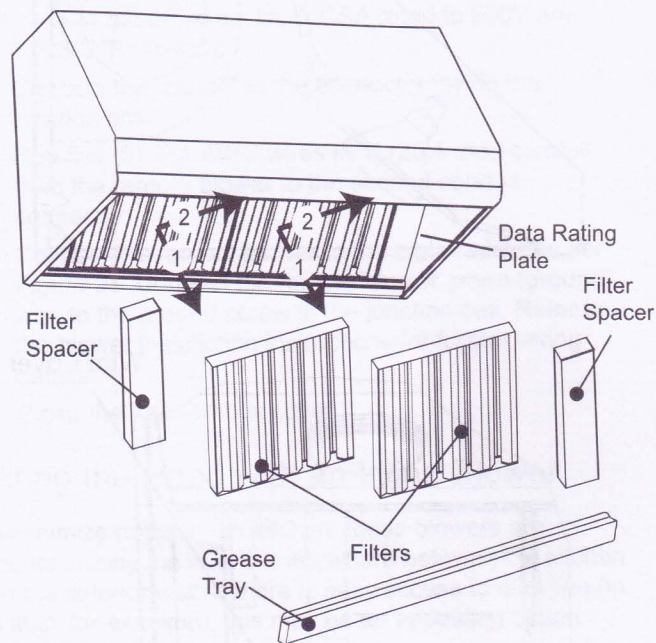

Figure 26: Hood and Parts
3. Reverse the above directions to remove the grease tray, filters and filter spacer (Figure 26).